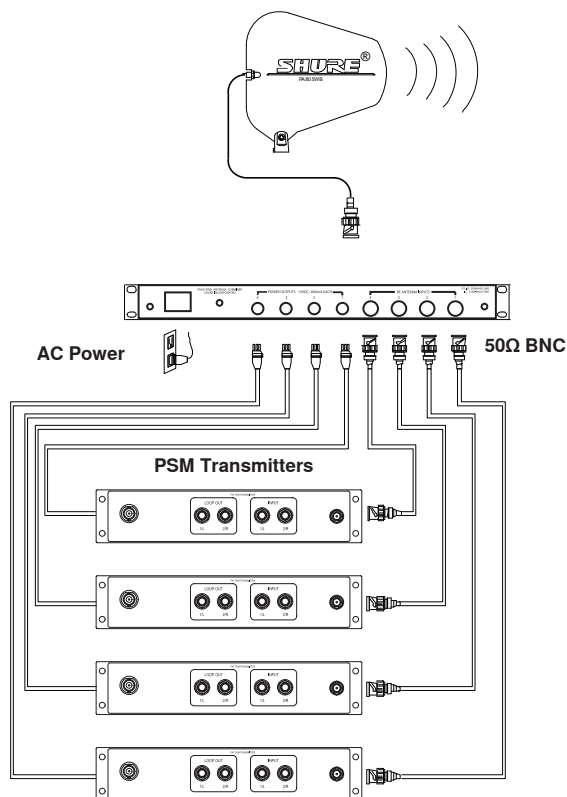

Figure 2
- Using the supplied BNC-BNC cables, connect the Antenna Output of each transmitter to the Antenna Inputs of the PA421A (See Figure 2).
- Attach an antenna to the MAIN Out of PA421A. For wideband applications, use PA805SWB directional antenna (Figure 2).
- If you have a Shure PSM system that has the same power input connectors as the PA421A power outputs, such as the PSM900, connect the PSM system to the PA421A via the supplied power cables (see figure 2). This replaces the need for an external power supply.
NOTE: When the PA421A is powered on, the input signal indicators (1-4) on the front panel will illuminate if an active transmitter is connected to the corresponding input (1-4) on the back panel (Figure 2).